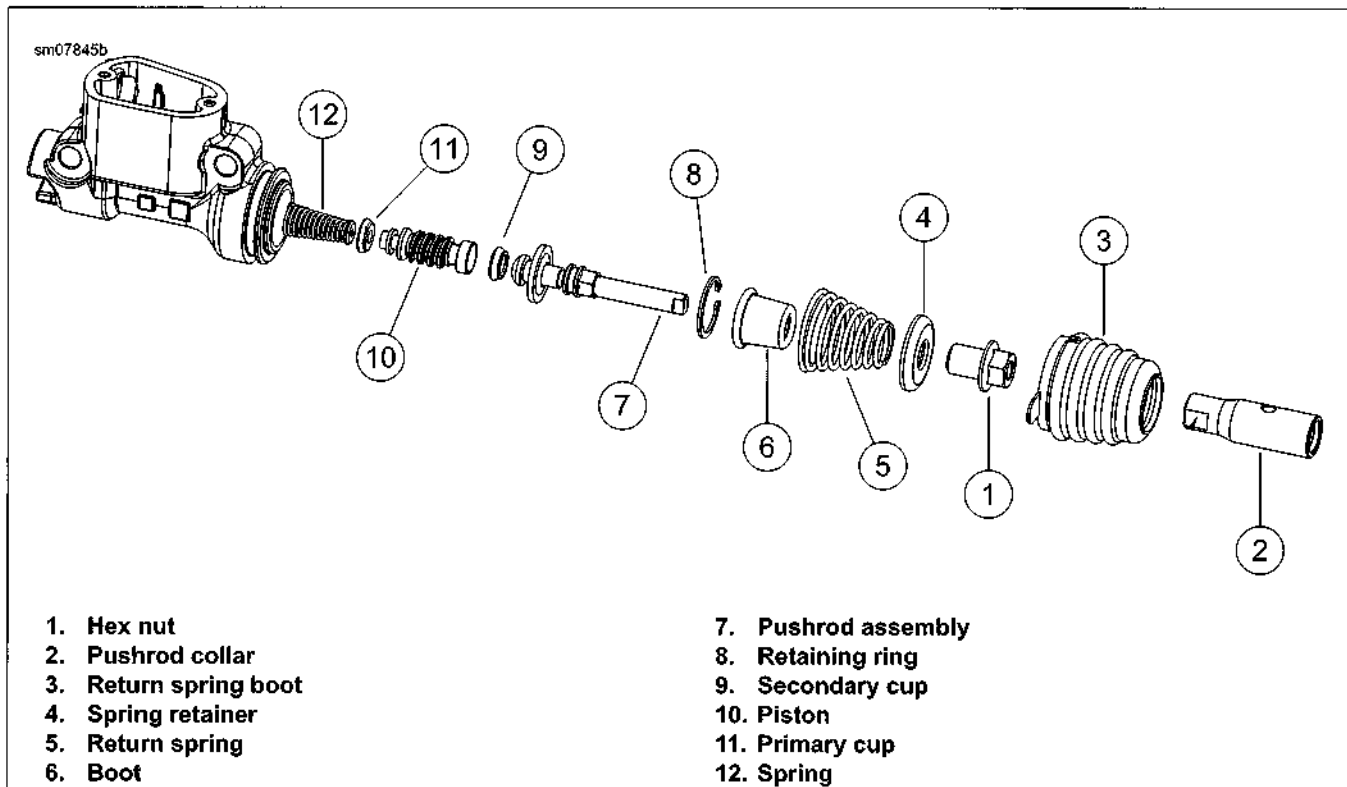

Figure 2-67. Master Cylinder
1. See Figure 2-67. Hold hex nut (1). Remove pushrod collar (2).
3. Remove spring retainer (4), external boot (3), pushrod (7) and return spring (5).